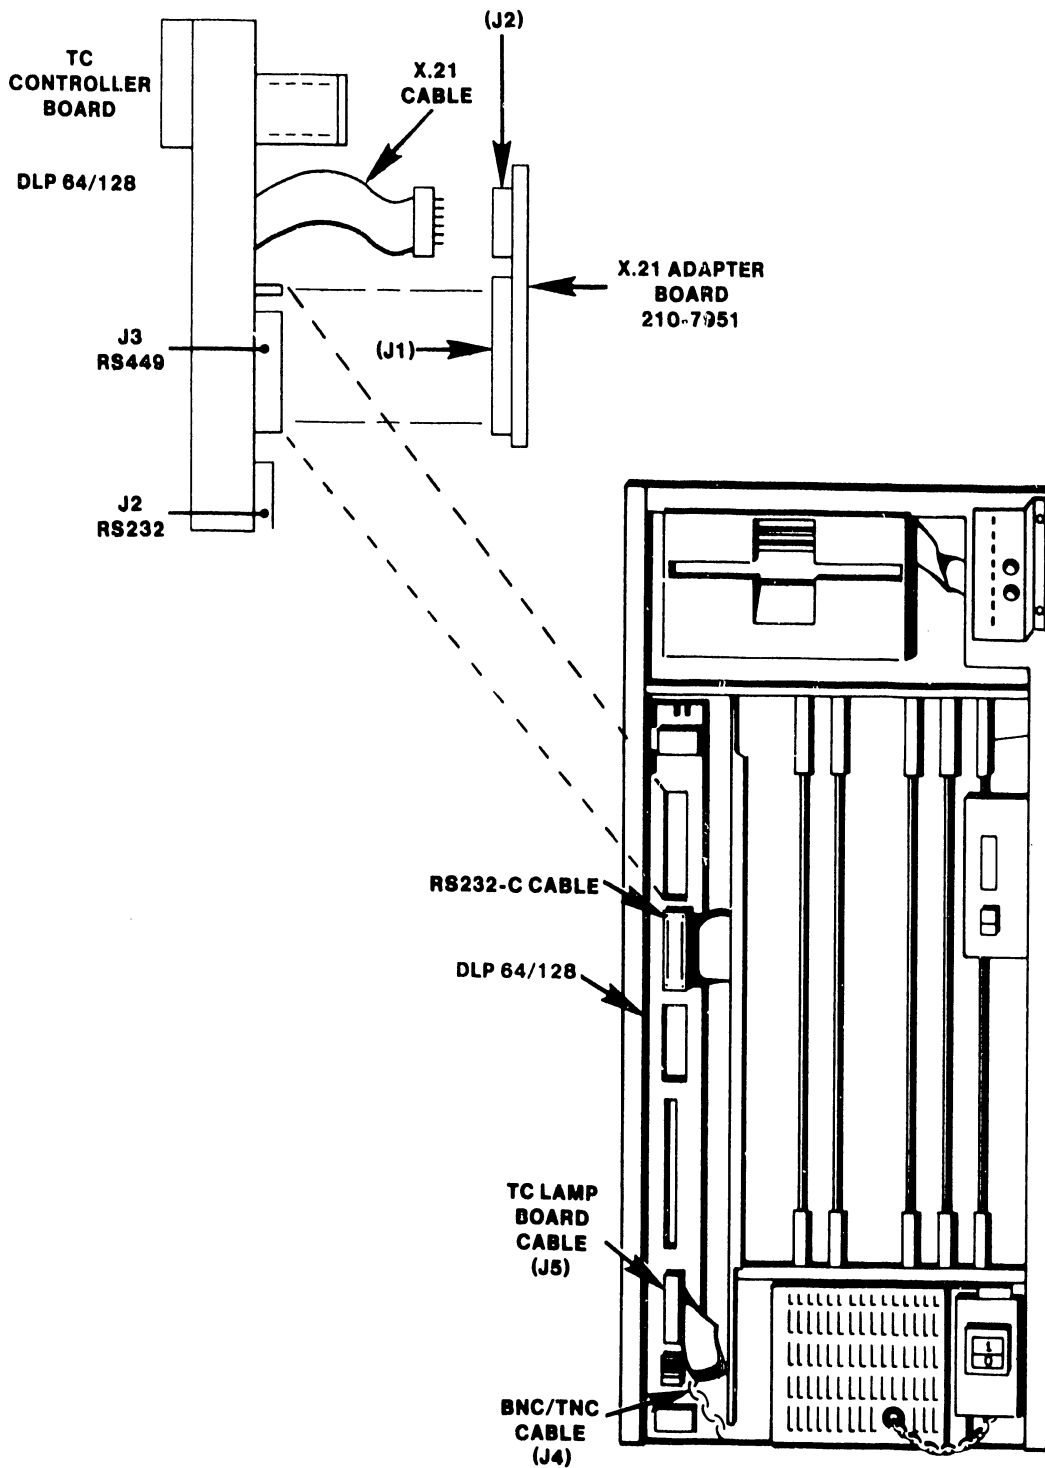

Figure 4-29 TC Controller PCB Installation
4. Carefully insert the X.21 DIP connector into J2 of the X.21 Adapter Board (P/N 210-7951) as shown in Figure 4-29. Ensure pin alignment.
5. Connect the X.21 adapter board to the RS-449 connector (J3) of the TC controller as shown in Figure 4-29.